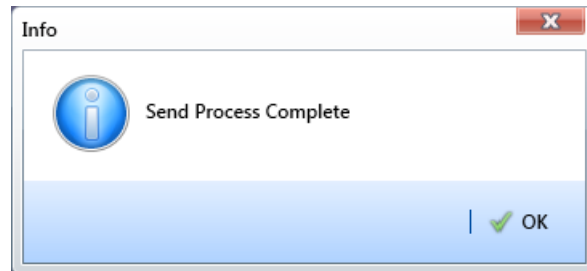

Figure 12-9. Send Process Complete
- 16 Click  **OK** when the message *Send Process Complete* displays (Figure 12-9). If you selected to send the survey file to the Allegro, the survey file transfers to the *PSData* folder on the Allegro.